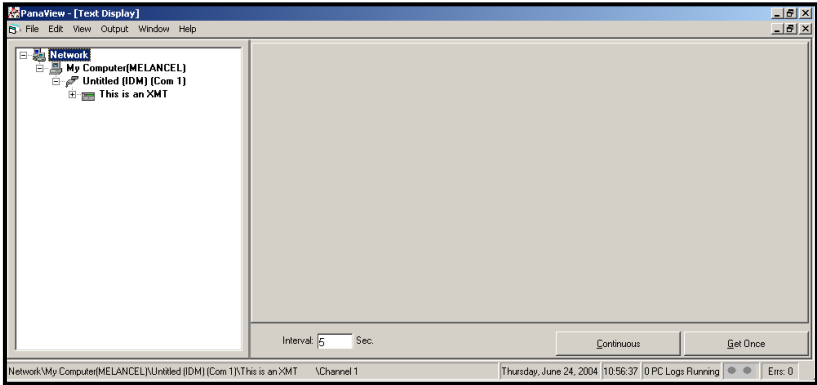

Figure 6: The Text Display Window
- 5. Using the *Window* menu, arrange the open windows in the desired format. For this discussion, *Figure 6* shows the *Text Display* window in its maximized (full-screen) size.
Note: Figure 6 has been compressed both vertically and horizontally for improved clarity.